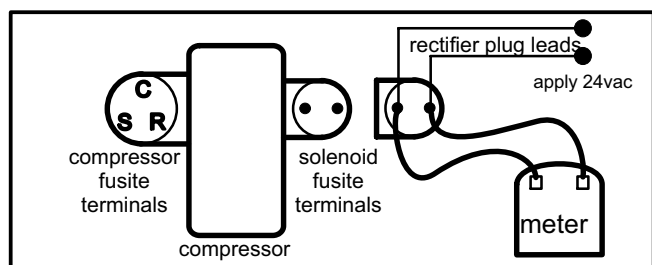

FIGURE 7
- 14 - Turn the low voltage power back onto the unit. Supply 24VAC to the wires of the full wave rectifier plug. Set volt meter to DC volts and measure the DC voltage at the female connector end of the full wave rectifier plug. The DC voltage reading should be 1.5 to 3 volts lower than the input voltage to the plug wire leads. (EX: Input voltage is 24VAC output voltage is 22VDC). See figure 7.